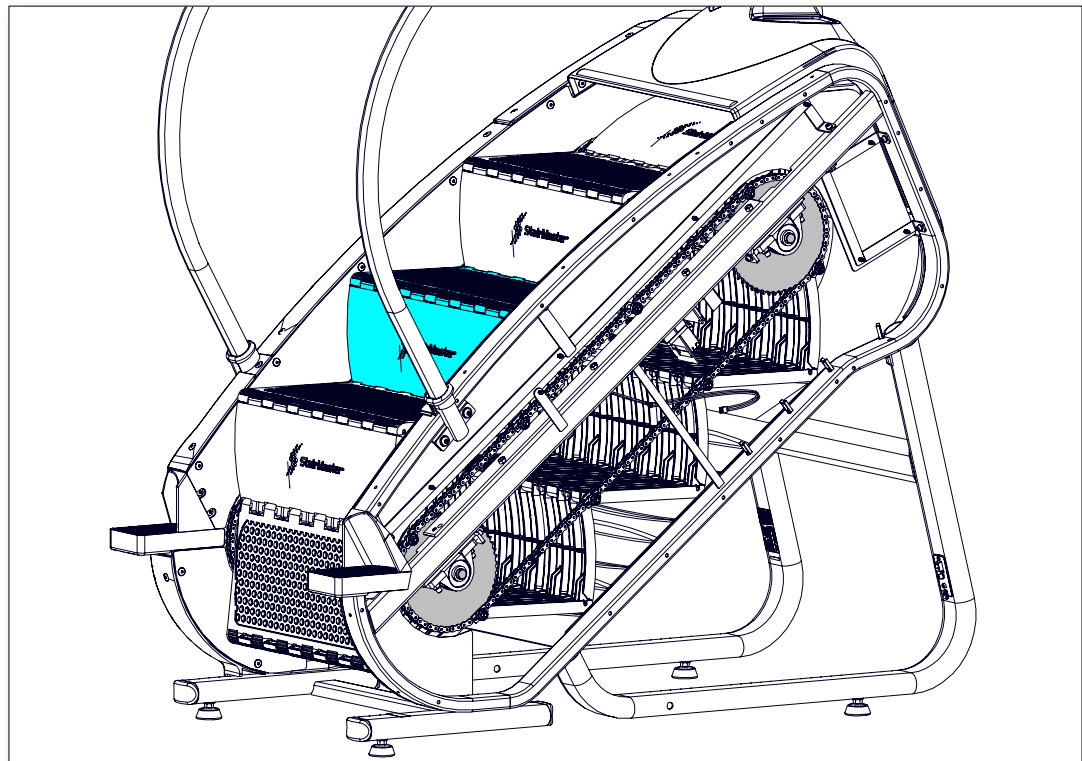

Fig. 5
5. If desired for access, removing the step pivot shaft of the central step to open the two indicated steps in Fig. 5 is an optional step.